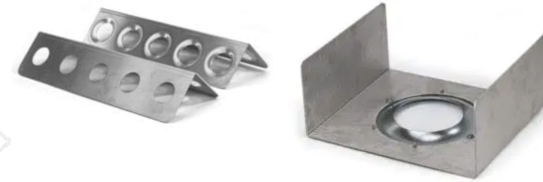

Figure 1.1
- It uses a male and female die to press the sheet metal, forming a raised or recessed 'dimple' (see Figure 1.1).